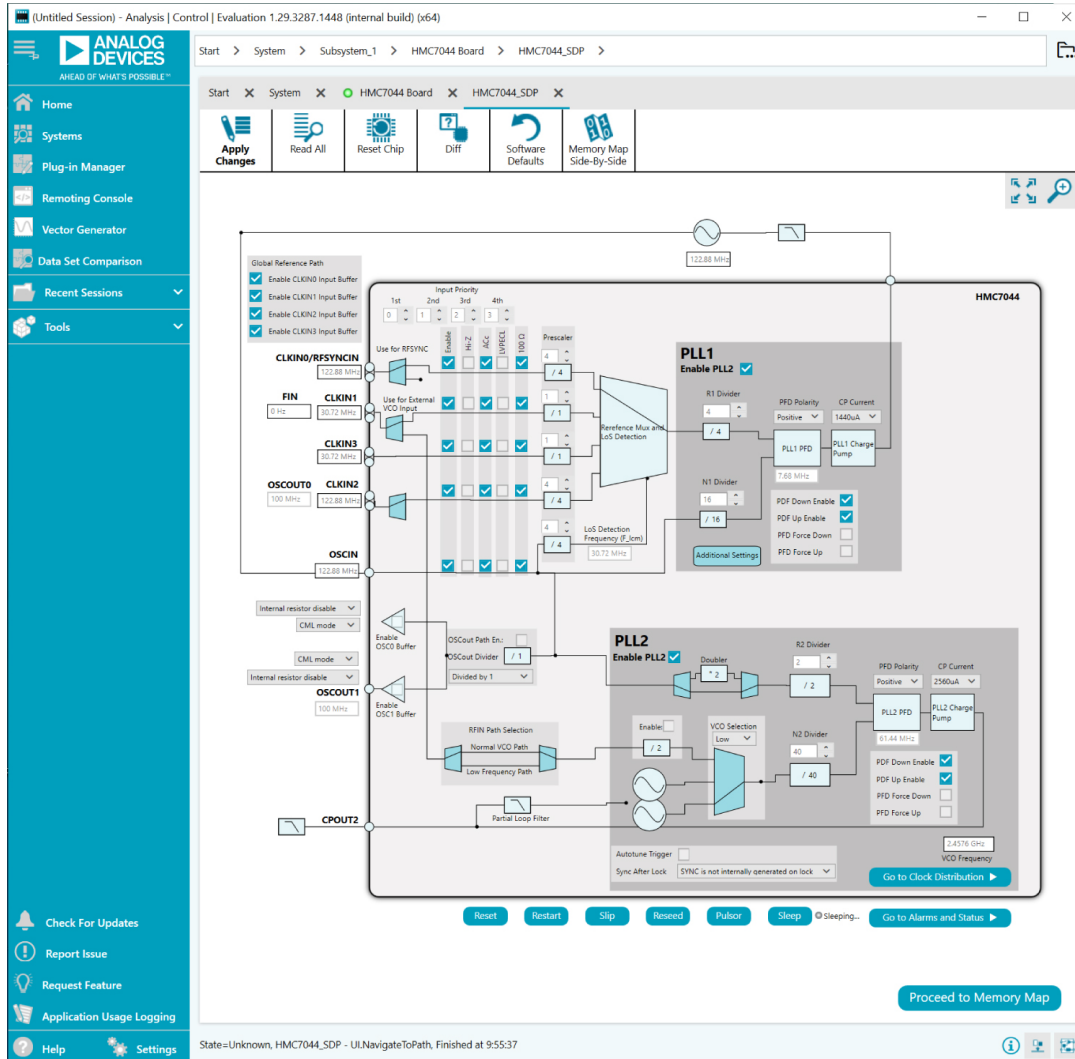

Figure 5. Main Page
- 3. Double click the **HMC7044** icon that appears on the board GUI to open the main control window shown in Figure 5.
The main controls are available in the high-level register map shown in Figure 5. To modify registers, perform the following steps:
5. **Restart**, **Slip**, **Reseed**, **Pulsor**, and **Sleep** requests can be triggered by the buttons at the bottom part shown in Figure 5.
- 2. Run the software and follow the steps given in the Evaluation Board Software section to open the main page as shown in Figure 5.